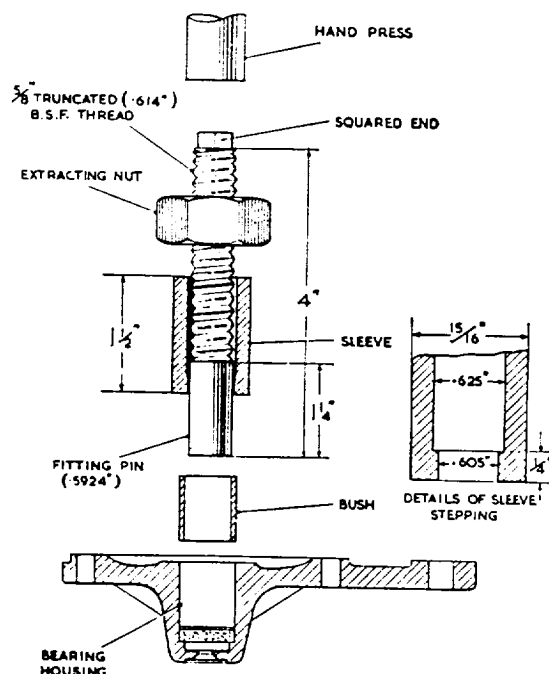

Fig. Q.6.
3. Insert the felt ring and felt ring retainer in the bearing housing, then press the new bearing bush into the end bracket, using a self-extracting tool of the type and in the manner shown in Fig. Q.6—the fitting pin or mandrel portion being of 0.5924 in (15.05 mm) diameter and highly polished. To withdraw the pin after pressing the bush fully home, turn the nut against the sleeve while gripping the squared end of the fitting pin. Porous bronze bushes must not be opened out after fitting, or the porosity of the bush may be impaired.